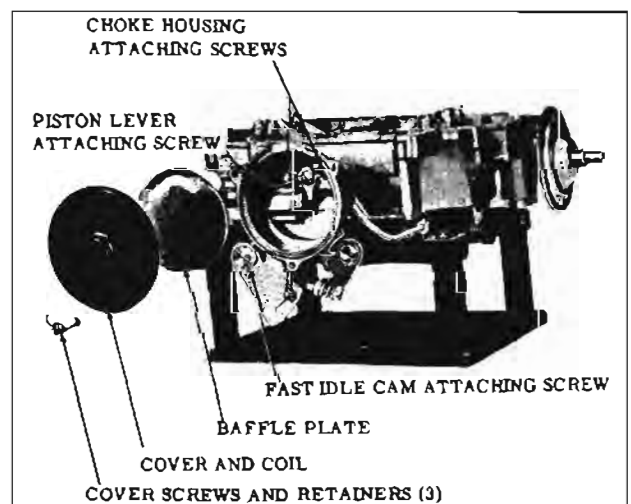

Fig. 9-181 Choke Assembly and Fast Idle Cam
13. Install the choke housing gasket, intermediate choke lever and shaft with linkage, in the choke housing. (Fig. 9-181)